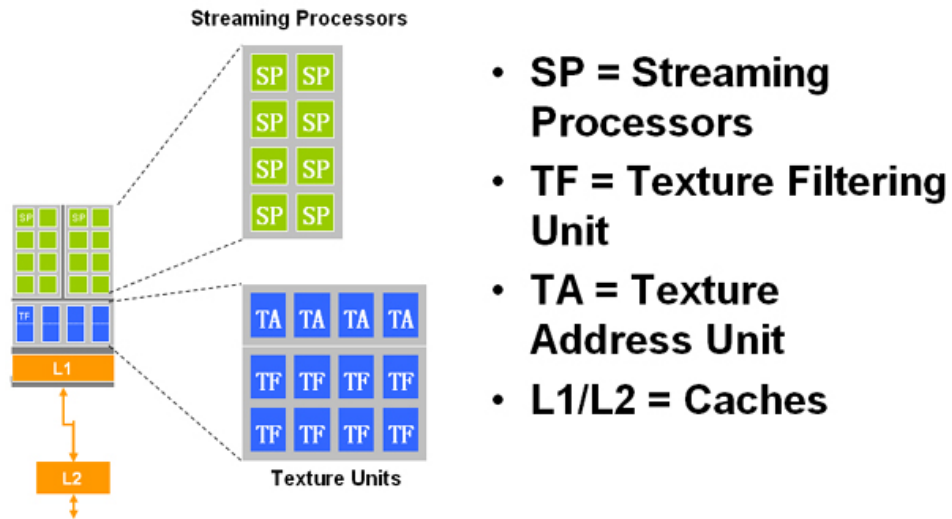

Figure 18. Streaming processors and texture units
With the GeForce 8800 architecture, the image in Figure 18 shows a collection of stream processors (SPs) with associated numbers of Texture Filtering (TF), Texture Addressing (TA), and cache units to ensure a balanced design. The ratios of unit types shown below in a subset slice of a typical GeForce 8800 GPU are maintained when scaling up to 128 SPs specifically in a GeForce 8800 GTX GPU.